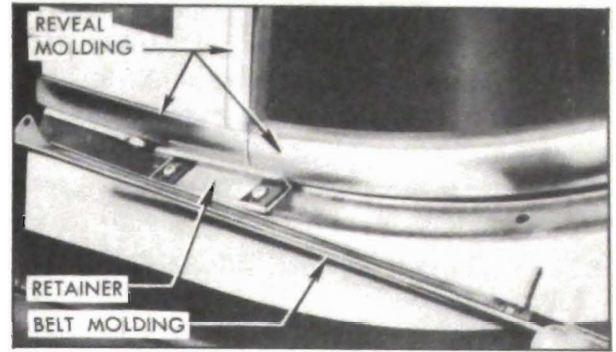

Figure 13-21—Rear Quarter Belt Molding Retainer—Style "69"
3. On outside of body remove the screw attaching ends of belt molding to body lock pillar, then remove molding sections. On *Style "69,"* the belt molding slips over a retainer located at lower corners of window opening; remove retainer also. See figure 13-21.